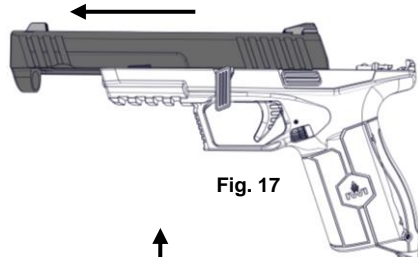

Fig. 17
4. Pull the trigger when the slide is forward to remove the slide from the frame (Fig. 17).